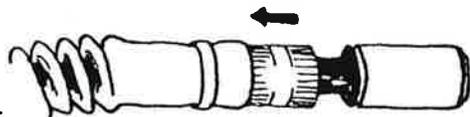

Figure 1.
Pull gently on tube to make sure the tip of tube or its attachment point on the bladder do not separate. Use plastic wire ties at these points if not present. Leave the silver knurled knob below mouth piece in the down position, ready for use (see figure 1). Once a year remove bladder, inflate overnight or soak under water to check for leaks. Make sure to reattach to suit when dry!
- 1) Examine the single point status indicator through the window panel (Fig. 1). Ensure the indicator is green. If the indicator is red, the mechanism has been fired or is incorrectly fitted (see Re-arming Your PFD, p. 9).
- Single point status indicator is green (Fig. 1 and 2).